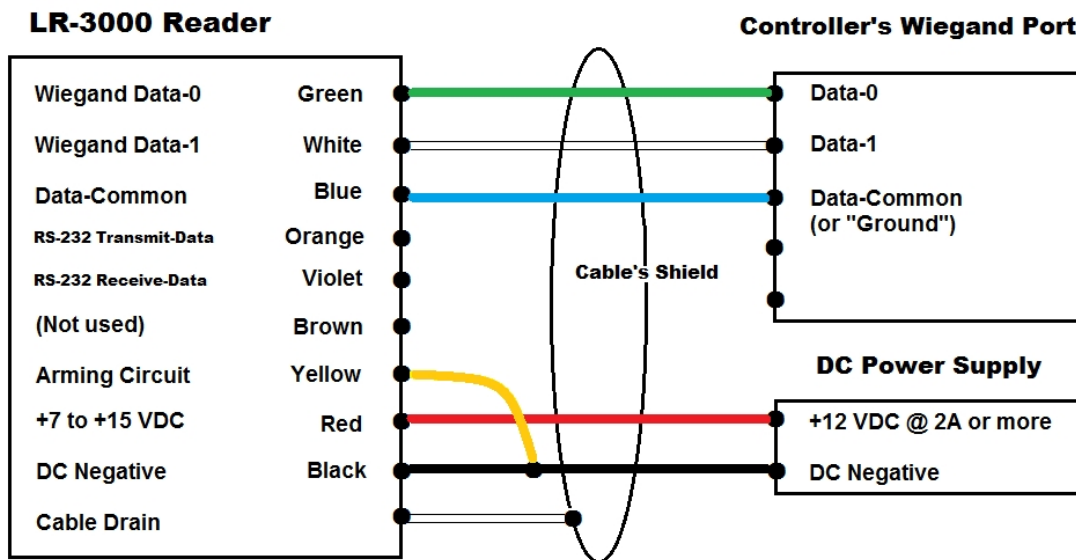

Figure 3 Wiring for LR-3000 installation
5.3. WIRING THE READER (FOR WIEGAND INTERFACE – Figure 3)